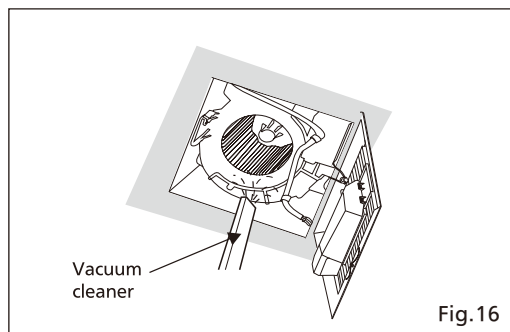

Fig.16
3. Remove dust and dirt from fan body using a vacuum cleaner. (Fig.16)